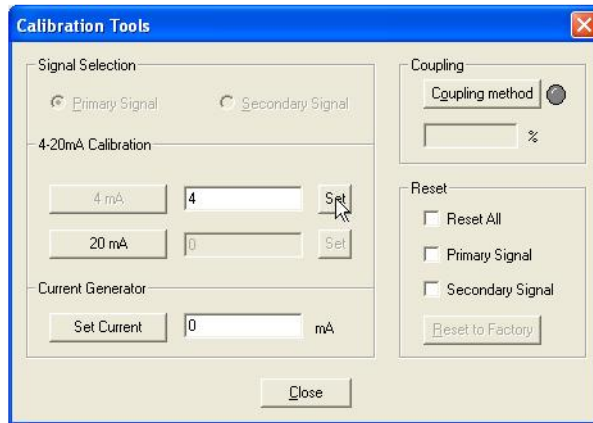

Figure 226 Setting 4 mA Calibration
3. Enter the reading from the milliammeter into the field and click **Set** (Figure 226).